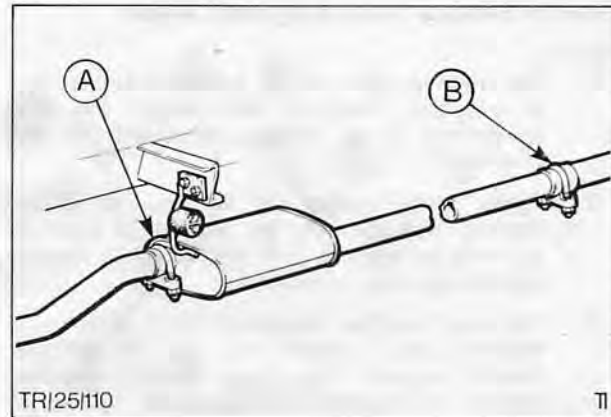

Fig. 15. Front muffler section
11. Loosely secure the joint with 'U' bolt clamp. Position this combined section, (front muffler section and down pipe), under the vehicle, Fig. 15.